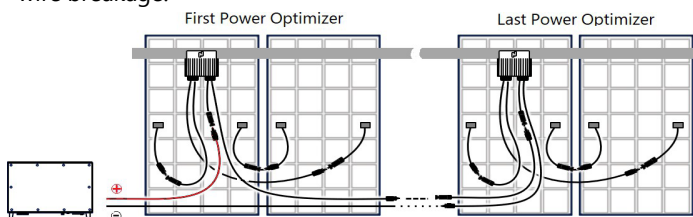

Figure 11 Power Optimizers connected in series
3. Connect the rest of the Power Optimizers to the PV string in the same manner (see Figure 11).